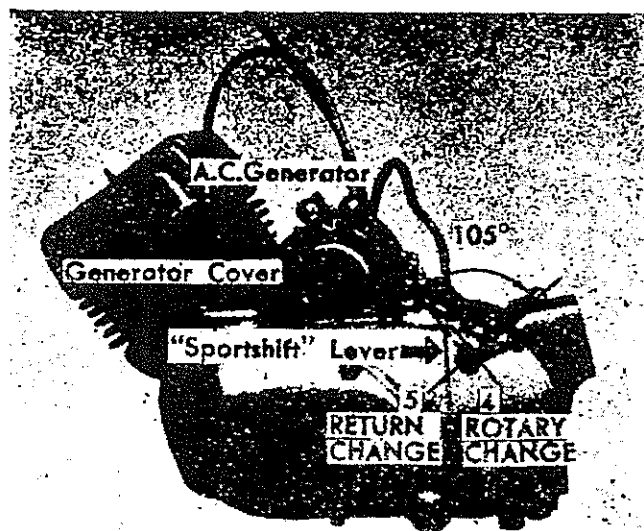
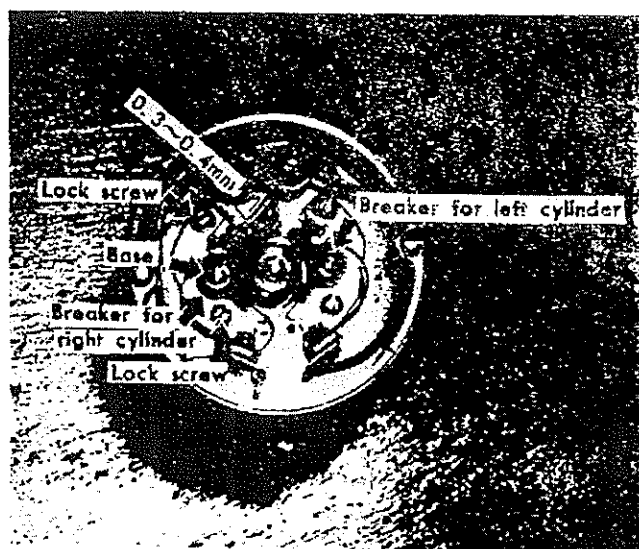

Fig. 21
Fig. 22
- (1) Remove the generator cover, check the point gaps. (Correct point gap is 0.3~0.4 mm (0.012~0.016"). (Fig. 21, 22)
- (2) If the points are incorrectly set, irregular ignition will result.
- (3) It is therefore necessary to inspect the points gap periodically, and keep it adjusted correctly. (Fig. 22)